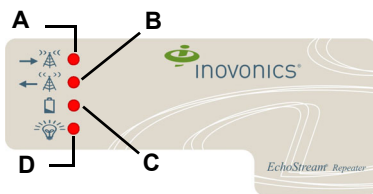

Figure 2 High power repeater front panel
8. Plug the connector cable from the backup battery into the battery connector (Figure 2).
10. Attach one of the mounting screws to the wall through the tamper mounting hole (Figure 2).